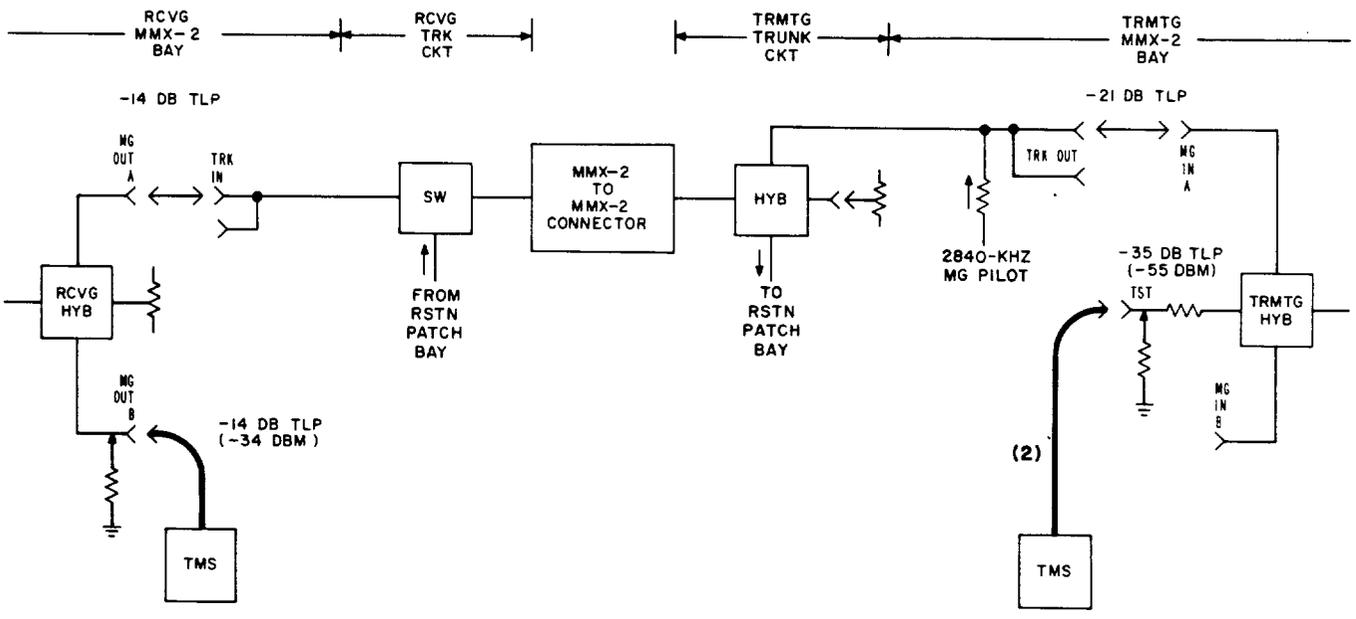

Fig. 2—Mastergroup Connector Test Connections
- 1 ♦ Locate the MG OUT B jack (MMX-2 receiving bay) and the TST jack (MMX-2 transmitting bay) associated with the transmission path to be tested (Fig. 2).
- 3 Patch the receiving test equipment to the MG OUT B jack for the mastergroup under test [patch (1) in Fig. 2].
- 7 Patch the receiving test equipment to the TST jack for the mastergroup under test [patch (2) in Fig. 2].